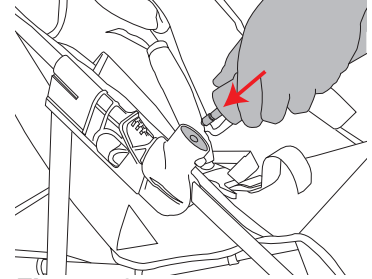

Figure 16
- Locate the bumper bar and orient it with the male fitting pointed towards the seat unit and the shiny round rivet head facing upward. While holding the male fittings straight, insert the male fittings on the bumper bar into the female fittings located on both sides of the seat. You will hear both sides of the bumper bar “click” in. See Figure 16.